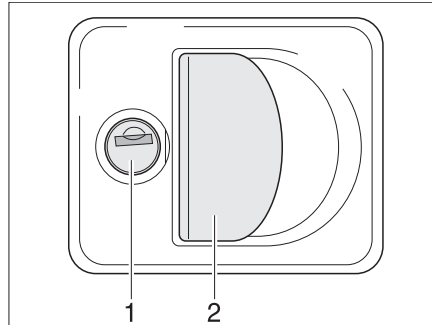

Fig. 29 Flap lock with recessed handle
- Insert the key into the locking cylinder (Bild 29,1) and turn a quarter turn. The flap lock is unlatched.
- Pull on the lock handle (Bild 29,2). The external flap is open.